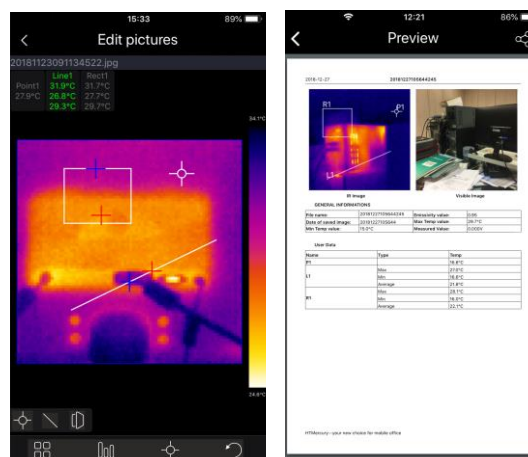

Fig. 21: Applications of the APP HTMercury
1. Press key **ESC**/ to activate Manual mode. The temperature values stay fixed within a frame with grey background and symbol appears on the display (see Fig.21 – left side).
2. Press key **▲** to set the higher temperature value. The following screen (see Fig.21 – middle) appears on the display.
4. Select virtual key **←** to delete the value, press key **T** to define each value and select the virtual key **Enter** to confirm the value (e.g.: 35.0°C in Fig. 21 – middle) and quit setting section.
6. The display of the object in Manual mode is shown in Fig. 21 – right side.